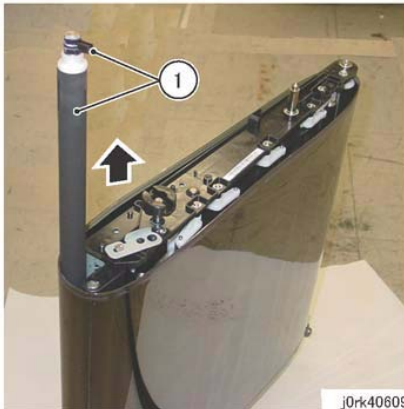

Figure 8 Backup Roll and Bearing Removal
- (1) Remove the screw.
- (2) Remove the BUR Front Frame & BUR Bearing.
10. Remove the Backup Roll. (Figure 8)